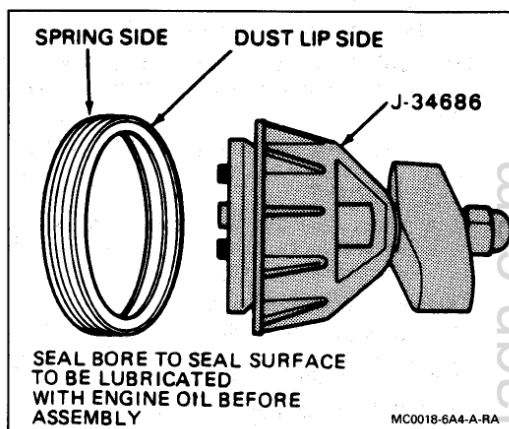

Figure 64 Rear Main Seal and Tool
Figures 64 and 65
1. Apply engine oil to ID and OD of new seal. Slide seal over mandrel until back of seal bottoms squarely against collar of tool (Figures 64 and 65).
2. Rear main oil seal (32).